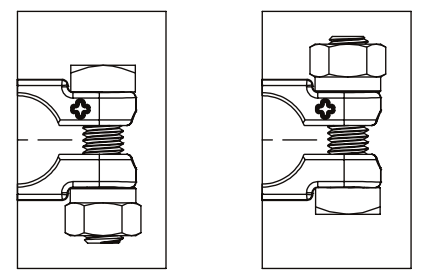

FIGURE 2
4. ATTACH THE BASE ASSEMBLY TO THE POSITIVE BATTERY POST OVER THE COVER. SECURE THE ASSEMBLY BY TIGHTENING THE M8 SHOULD HEX NUT TO  $12 \pm 1 \text{ N}\cdot\text{m}$ . M8 NUT AND BOLT CAN BE ASSEMBLED IN LEFT OR RIGHT HAND ORIENTATION FOR BEST ACCESS DURING ASSEMBLY (FIGURE 2).